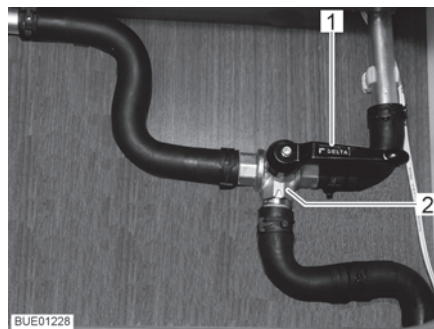

Fig. 139 3-way valve
- Set the lever (Fig. 139,1) of the 3-way valve (Fig. 139,2) parallel to the straight flow direction (Fig. 139).
- Set the lever (Fig. 139,1) of the 3-way valve (Fig. 139,2) transverse to the straight flow direction.